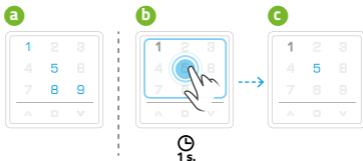

Fig. 9.1
1. Activation by the touch your finger in a numeric field. In this mode the channel is activated, which has been touched. The remote is expected to order for the selected channel or selection of another channel - Fig. 9.1.